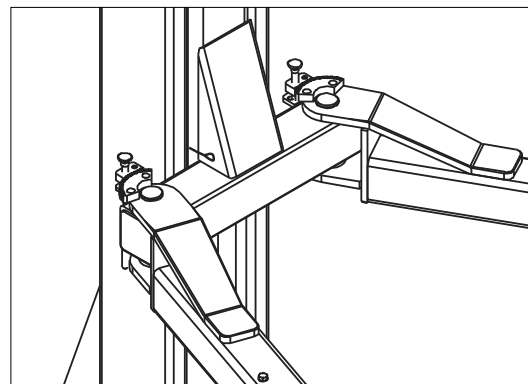

Fig. 36
- ◆ Mount the arms into the carriage supports and insert the dowel pins into the support holes as shown in Fig. 36. Notice the entry of both arms is the same with the entry of the vehicle.